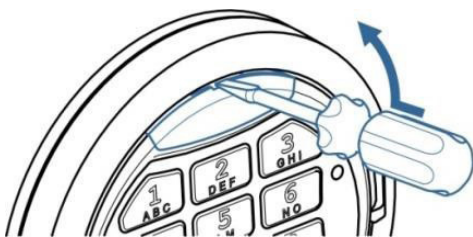

Fig. 7.2
- Release the plastic cover for emergency power (5), see Fig. 7.2.